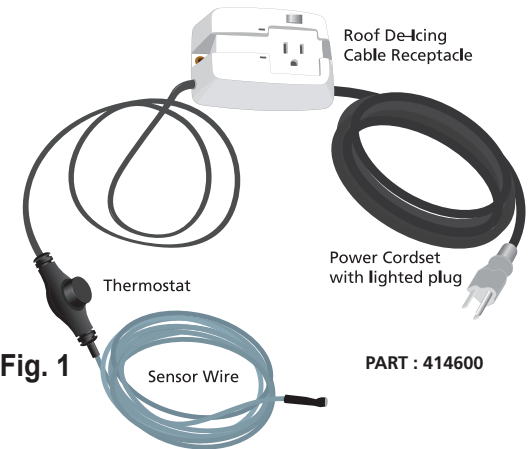

Fig. 1
This product has been designed and manufactured for the sole intended use of controlling roof de-icing cables. The roof de-icing cable is used for preventing ice dams from forming on inclined roofs, in gutters and downspouts. Improper installation, use, operation and/or maintenance of electrical roof de-icing can cause fire, electric shock and/or allow ice dams to form. Fig. 1 Kit also includes (6) clips and (2) mounting screws.